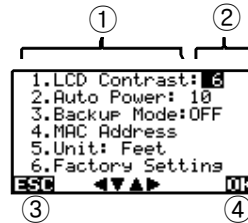

Figure 5 System Setting
- v To change the MAC address of the tester, chose menu item 4 (Figure 5) and enter the new MAC address in ① below.